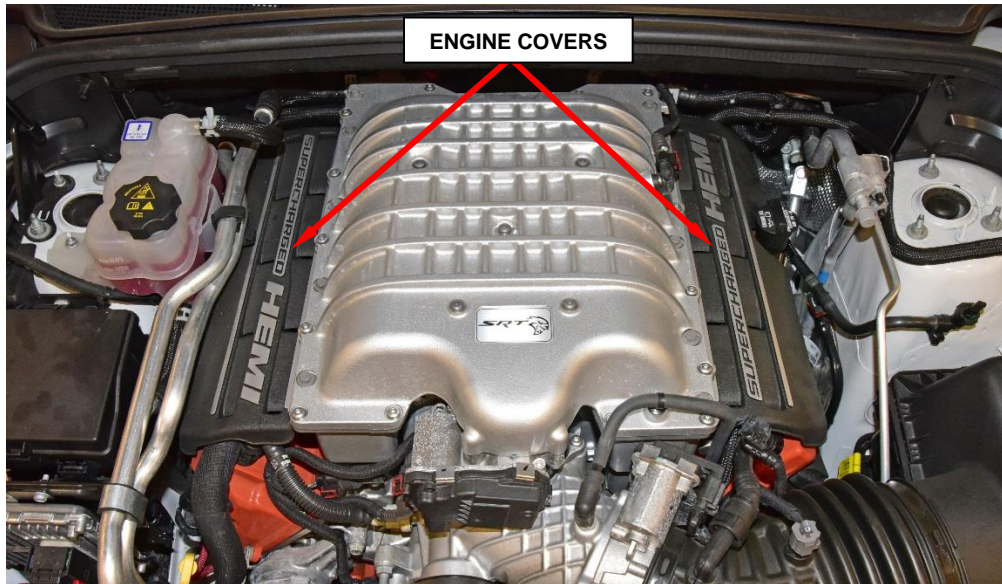

Figure 7 – Engine Covers
- Gently lift the engine covers vertically to release the engine cover grommets from the ball studs. Then remove the engine covers. The right-side engine cover will need to be slid forward toward the front of the engine to clear the coolant pipes (Figure 7).
27. Using hands only, gently push down on the engine covers until the grommets engage with the ball studs (Figure 7). Ensure grommet and ball stud retention by lightly lifting up around the edges of the engine cover to make certain that the cover is not loose and that all of the grommets are securely engaged.